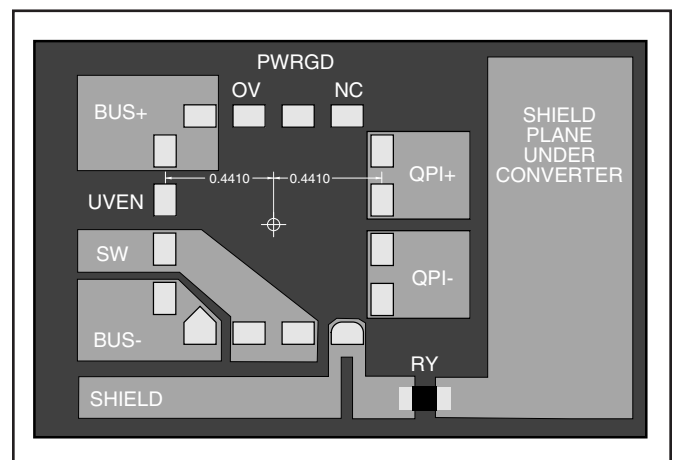

Figure 15 – Recommended PCB layout pattern.
**Note 1:** Refer to Figure 15 and QPI application note QPI-AN1 for critical PCB layout guidelines to achieve this thermal resistance when re-flowed onto the PCB.
(Refer to Figure 15 and QPI-AN1 application note for critical PCB layout guidelines)
Figure 15 shows how this can be accomplished by using the QPI-7's shield pin to bridge the connection between RY and earth without allowing any parasitic paths that might circumvent the QPI-7 and degrade filtering performance. Reference can be made to the QPI-AN1 application note for critical PCB layout recommendations regarding filter performance, but use the QPI-7 pin/pad locations. Some systems may require the converter's positive or negative input or output "terminal" to be connected to PE (Protective Earth) ground for safety or other considerations.